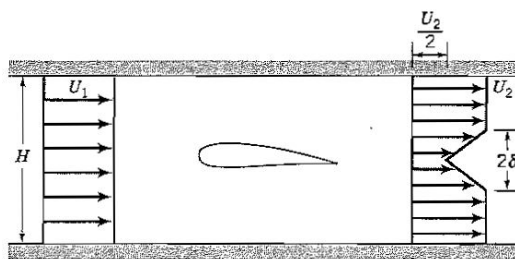

Figure P3.32
3.32 The wake of a body is approximated by a linear profile as sketched in Figure P3.32.